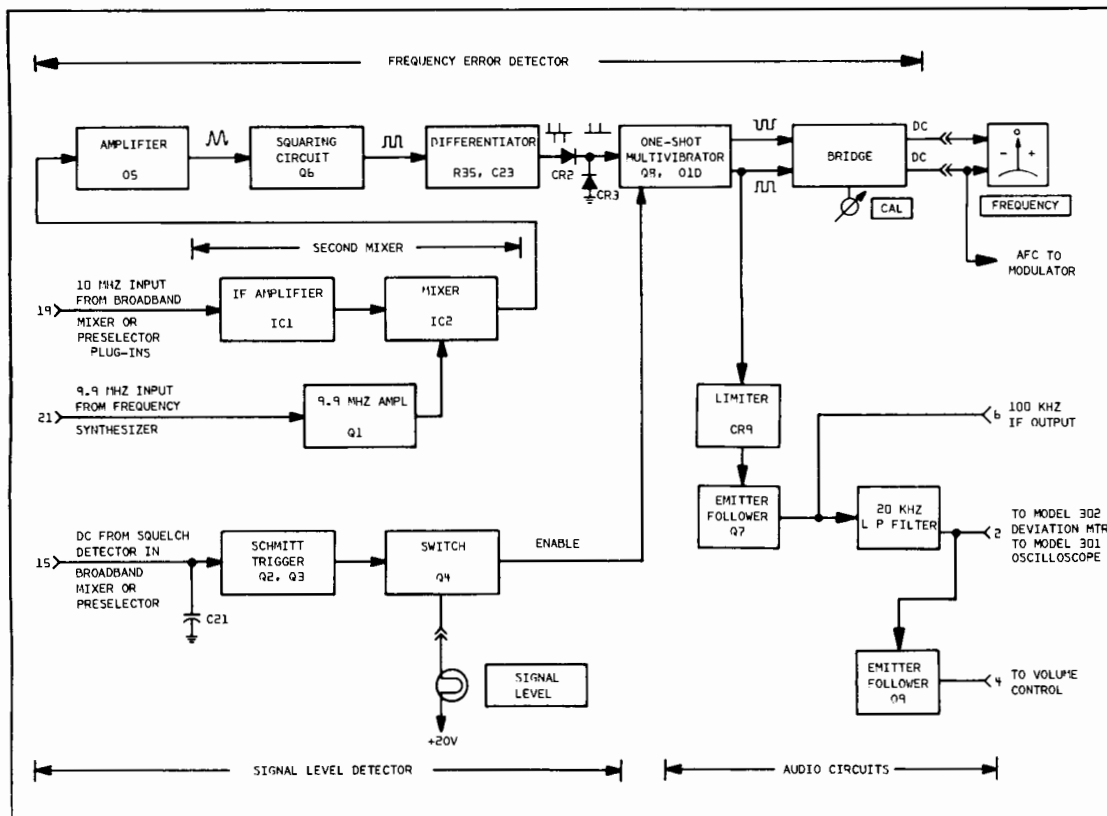

Figure 4-4. Second IF and Discriminator Circuits, Simplified Block Diagram
4.104 Figure 4-4 is a block diagram of the Second IF and Discriminator circuits and Figure 6-5 is the schematic.